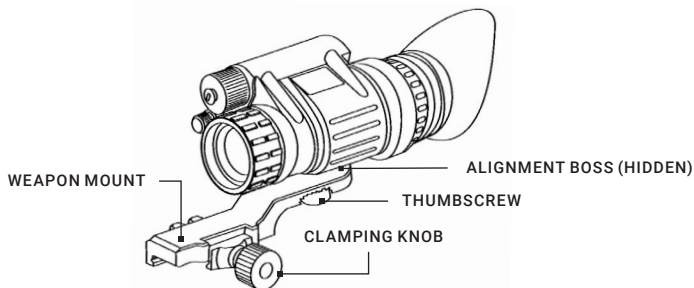

FIGURE 2-8. WEAPON MOUNT USAGE
1. Adjust the monocular and weapon mount as shown in Figure 2-8. Align the alignment boss on the weapon mount with the alignment groove in the monocular.